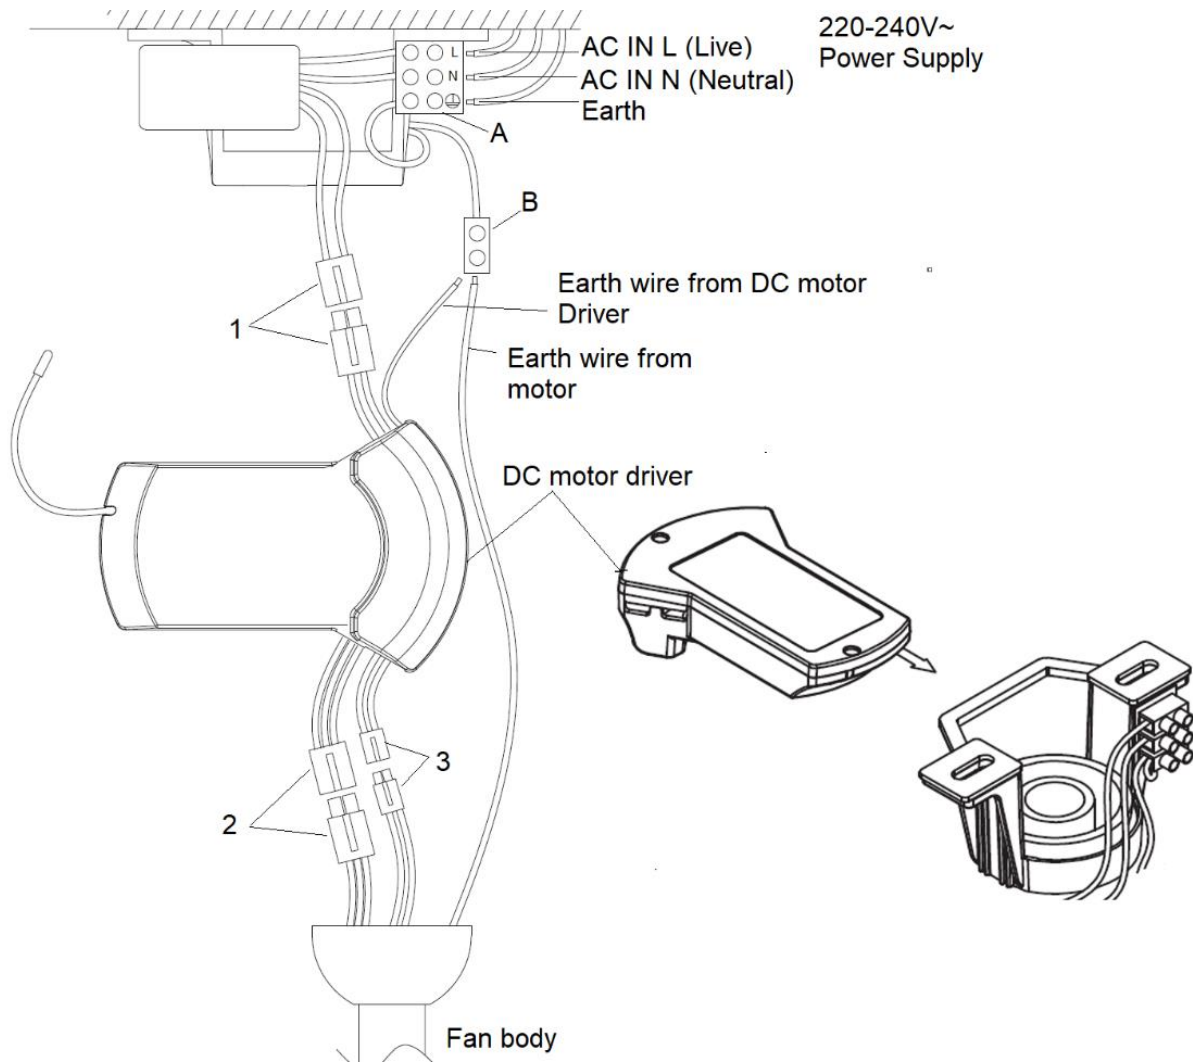

Fig. 9
Ensure the motor earth wire is connected to the single earthing terminal block “B” in Fig. 9
- Connect the motor earth wire and DC motor driver earth wire to the single earthing terminal block “B” in the diagram below. (Fig. 9)
- Connect the fixed wire from the mounting bracket to the input wire of the DC motor driver via 4-port quick connectors (1).
- Connect the motor output wire of the DC motor driver to the input wire of the fan via 4-port quick connectors (2).
- Connect the light output wire of the DC motor driver to the input wire of the light kit via 2-port quick connectors (3).